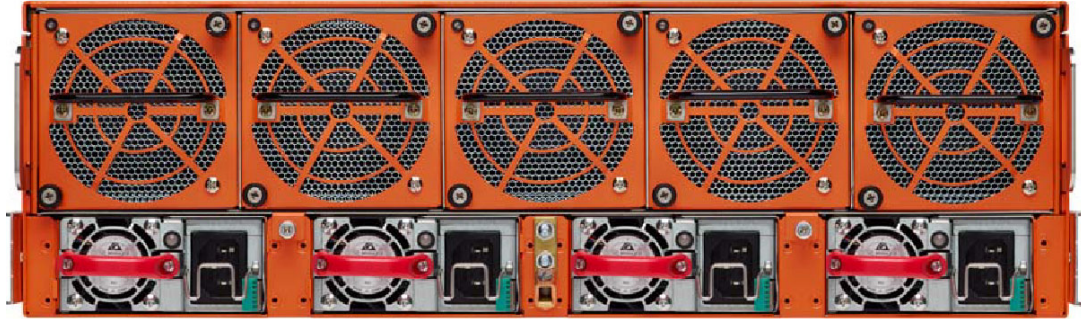

Figure 3-6: Four Power Supply Modules Installed
4. Repeat the previous steps for the next PSM. Figure 3-6 on page 57 shows the GigaVUE-HC3 node with all four power supply modules installed.